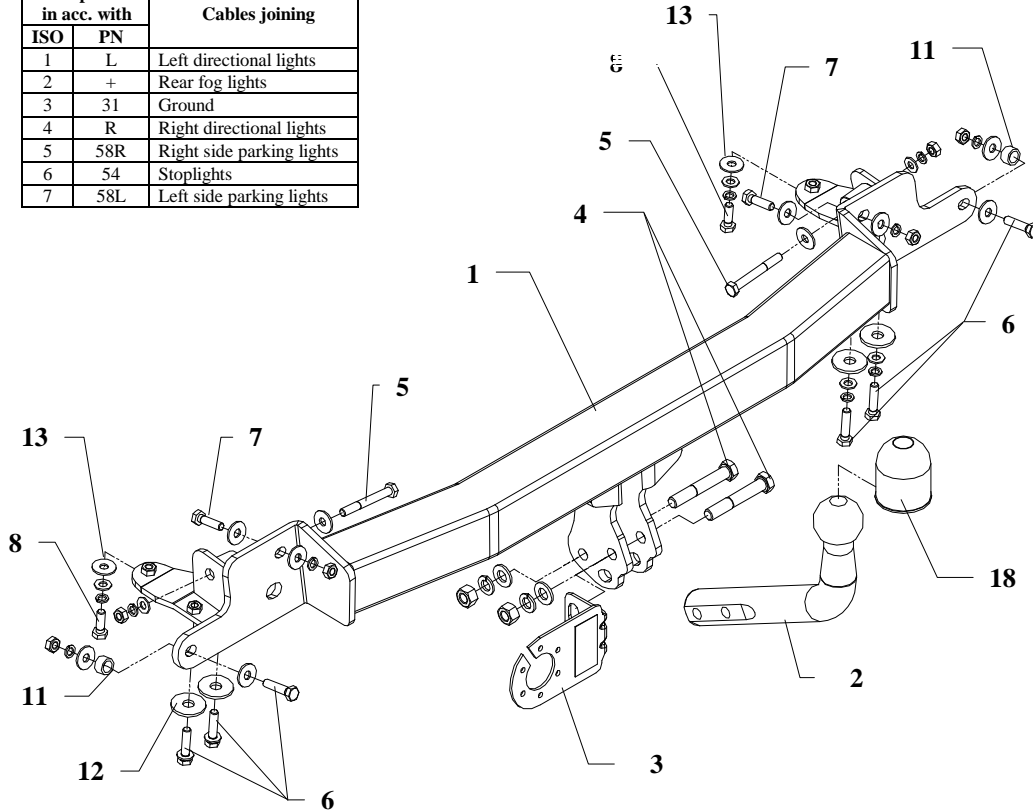

Fig.1
4. Slip main bar of towbar (pos. 1) to rear chassis members and screw using bolts, nuts and sleeves – as shown in the figure 1.
8. Screw tow-ball (pos. 2) and socket plate (pos. 3) using bolts M12x75mm (pos. 4) from accessories.